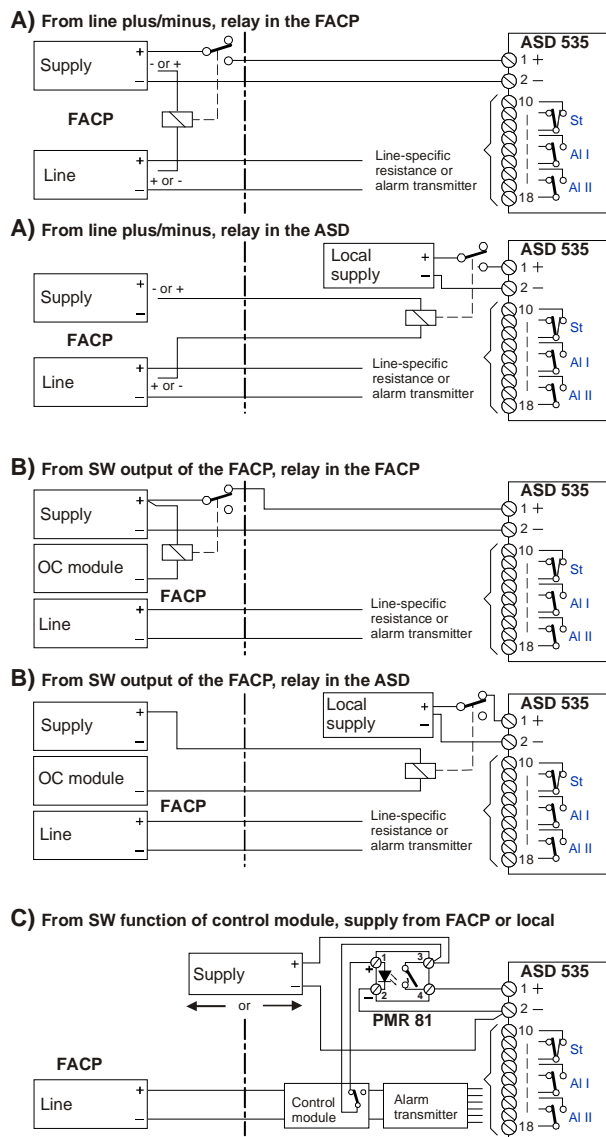

Fig. 36 Control via supply with relay
The auxiliary relay can be actuated in the following ways (see Fig. 36):
- The EMC protective elements at the input of the ASD electronics cause a brief current peak (5 A / 1 ms). When using auxiliary relays with a max. contact load of 1 A, this may lead to the relay contact sticking. For this reason auxiliary relays with a contact load of over **1 A** should **always** be used, e.g. PMR 81 semiconductor relay (see Fig. 36 C)).